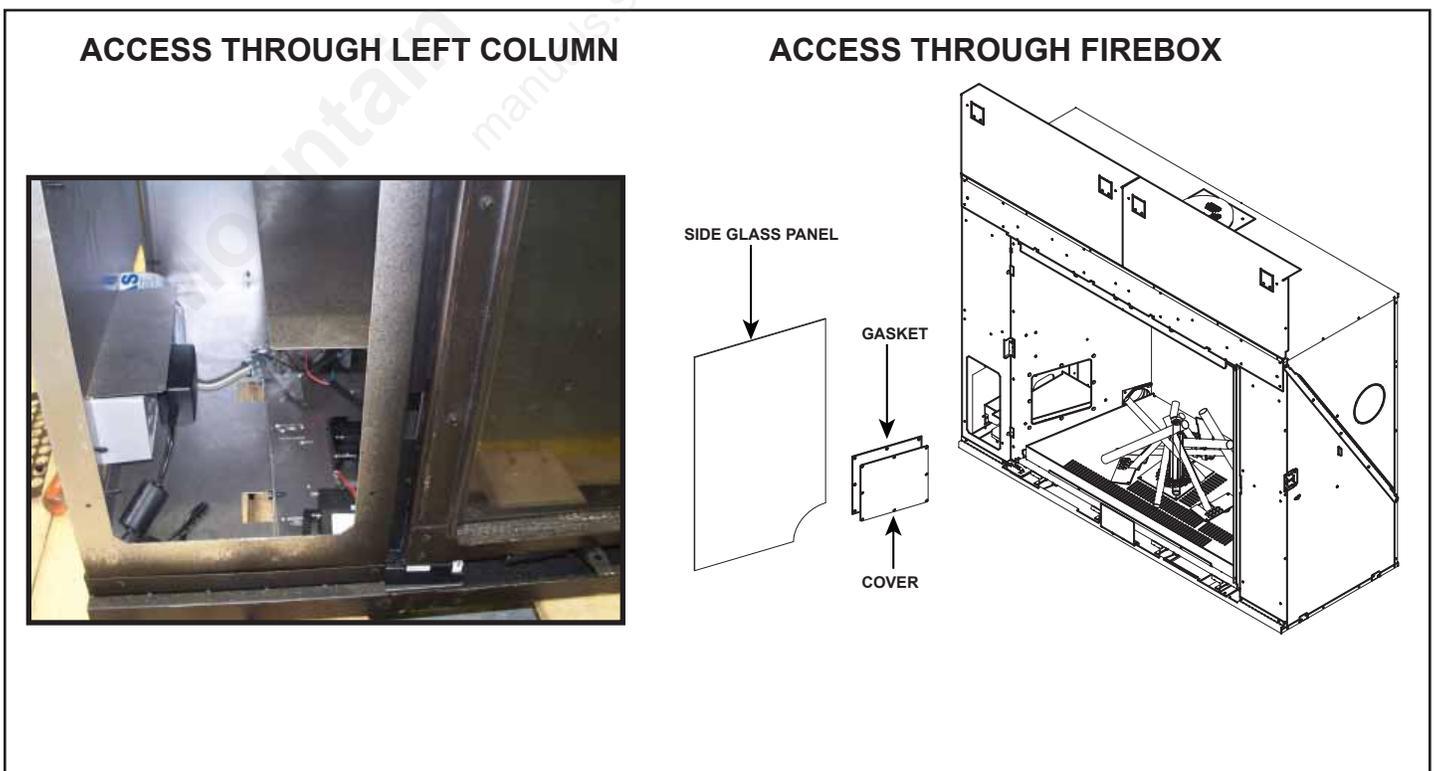
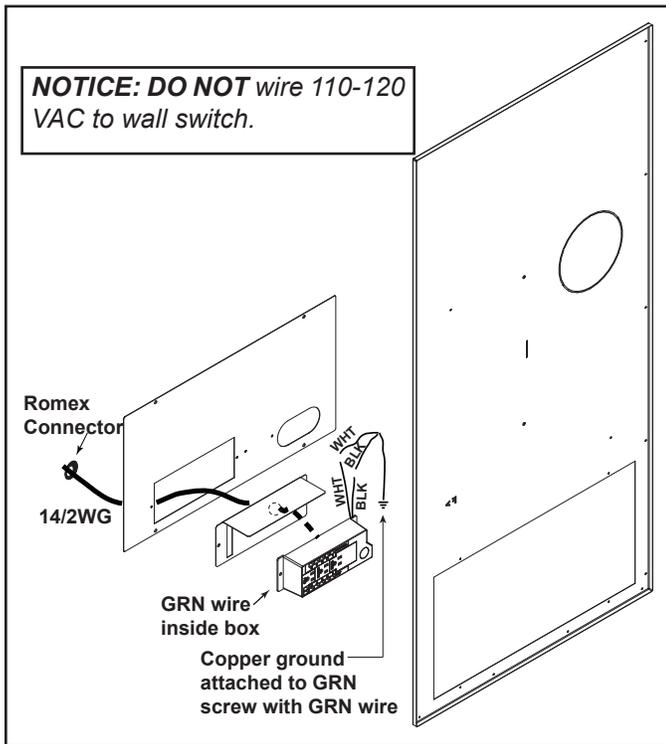

Figure 8.1 Junction Box Access
Figure 8.2 Junction Box Detail
- Remove two screws to release junction box bracket from the access plate. See Figure 3.2 and Figure 8.2.
- From inside remove one screw that secures junction box to junction box bracket. See Figure 8.1 and Figure 8.2.
- Pull the electrical wires from outside the appliance through the opening into the valve compartment and secure wires with a Romex connector. See Figure 8.2.